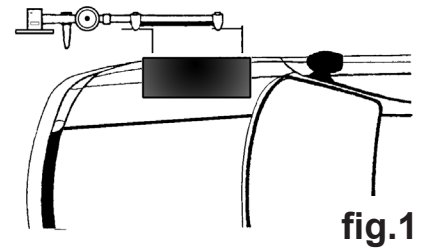

fig.1
- 4.2 Position the laser unit against the offside front wheel (see fig.1) and adjust the height of the contact bars by fixing them in which ever of the five preset positions is closest to a horizontal line through the centre of the wheel. At the same time adjust the side to side positioning of the contact bars so that they touch the sidewall of the tyre either side of the rim. Position the tips of the contact bars to touch the centre of the sidewalls at the greatest point of curvature. Avoid any ribs or raised lettering on the tyre side wall.